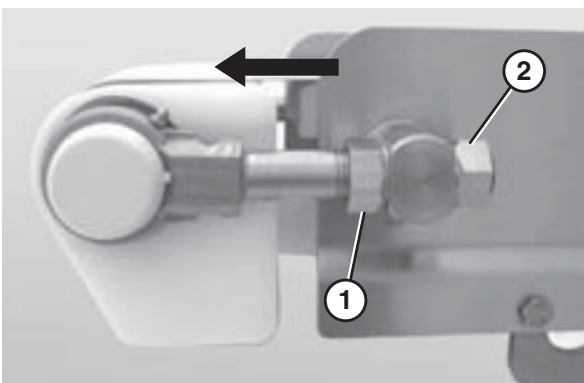

Figure 46
2. Turn the front nuts closest to the tail (Figure 46, item 1) clockwise in order to increase tension on the belt.
3. Tighten the back nuts (Figure 46, item 2) to secure the tail.
1. Loosen the back nut (Figure 46, item 2) on the idler tail shaft that needs to be adjusted.
2. Tighten or loosen the front nut (Figure 46, item 1) on the idler tail shaft adjust the belt tracking.